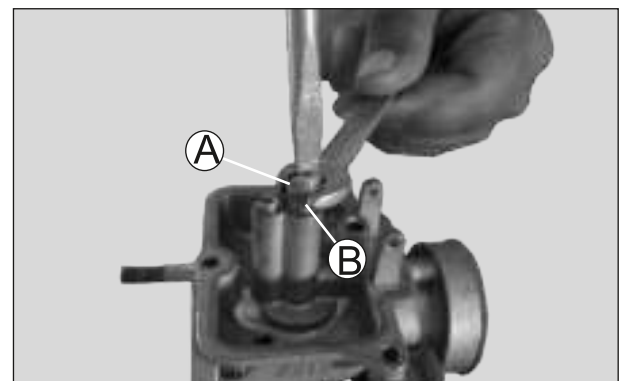

Fig. 4.24
- Loosen and remove carefully the main jet (A) while holding the jet holder (B). (Fig. 4.24)